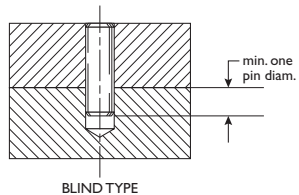

Fig. 12-8 Blind type.
3. Fig. 12-8 shows a blind type of hole; with this arrangement a dowel pin should always be a sliding fit in the blind hole and a force fit in the mating part. A blind-type dowel should never be used when it is feasible to employ either the through type or the semi-blind type.